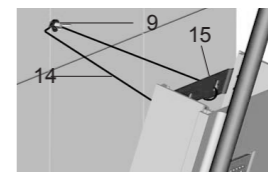

Fig.10
将淋浴屏下背板(16)支撑在托架(12)上(参照Fig.12)。将上背板(15)上的挂钩(14)挂到垫片(9)的下面(参照Fig.10)。
Support the lower base (16) of the shower panel onto wall fixture bracket(12), referring to Fig.12. Hang the hook(14) which attached to upper base(15) under the washer(9), referring to Fig.10.